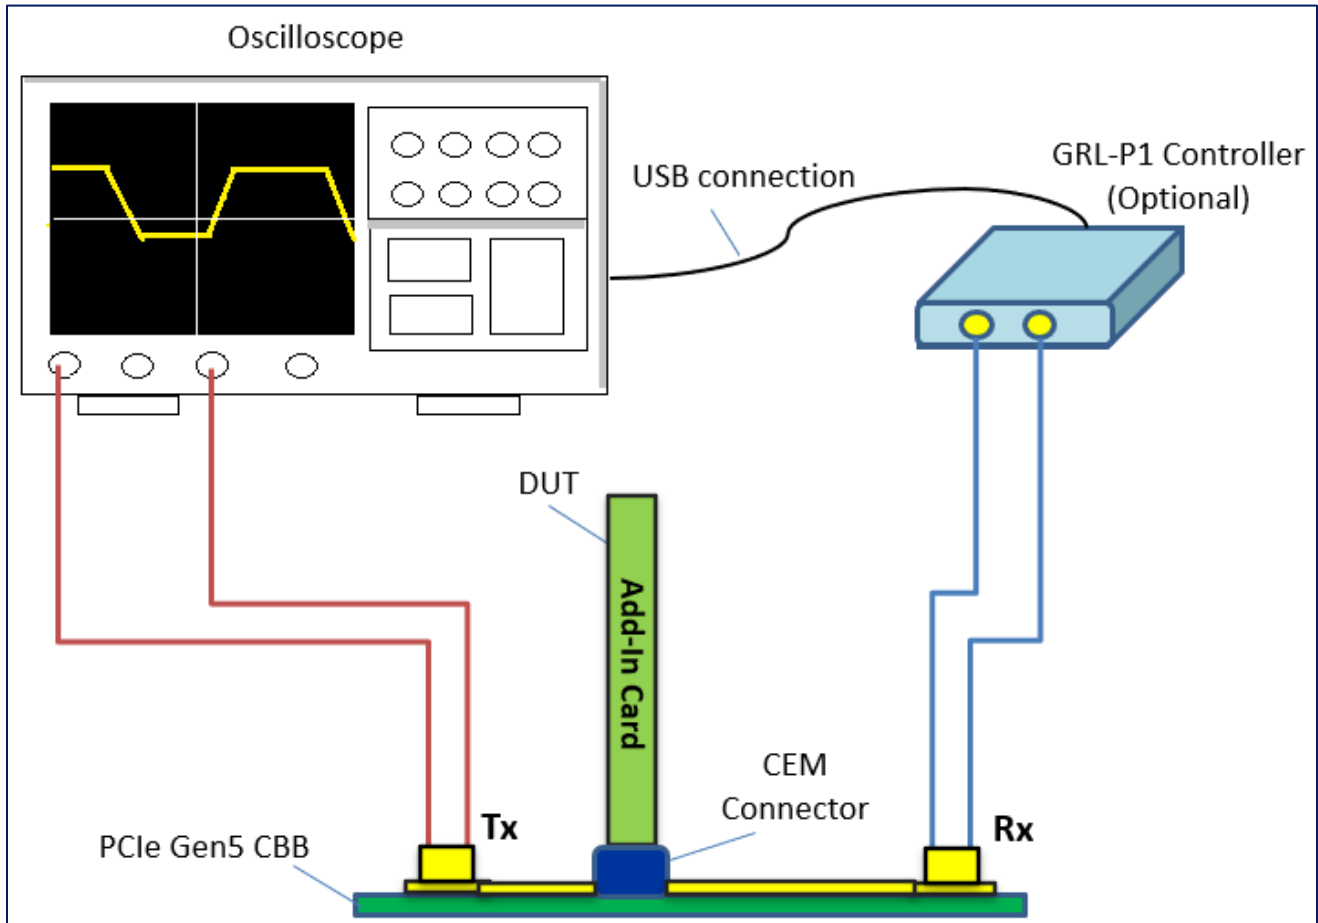

FIGURE 27. CONCEPTUAL PCIe GEN5 ADD-IN CARD TX TEST SETUP DIAGRAM USING GRL-P1 (WITHOUT RF SWITCH)
1. Using the same connections from Figure 27, connect the Tx+ and Tx- Data Lanes from the CBB to the RF Switch Inputs.